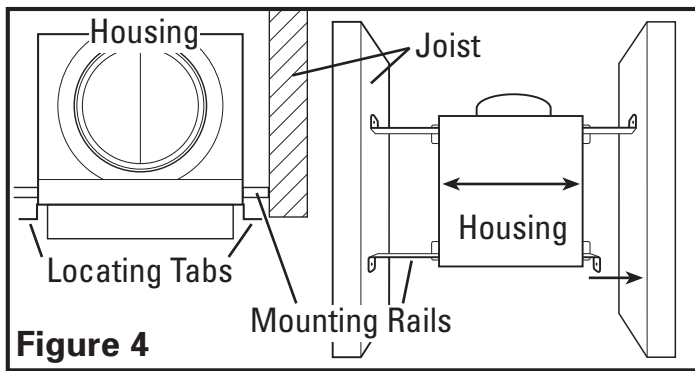
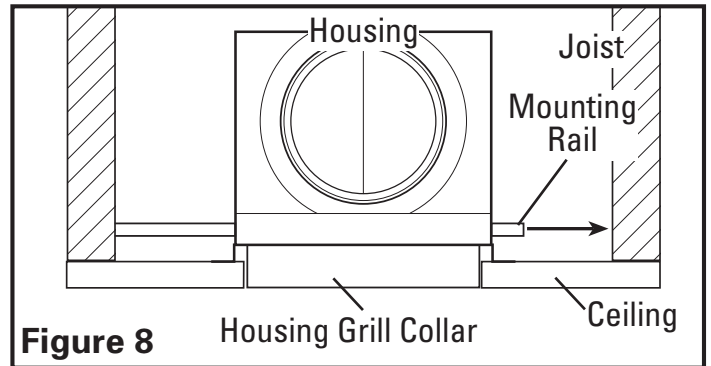

Figure 4
Figure 8
- Mounting Rail Installation:** Install the rails through the grill housing and position next to the joist. Using the locator tabs on the housing, line up tabs so that they are flush with the bottom of the joist. Secure the ends of the rails with the provided 1" screws to the joists and slide the housing into the final position (**Figure 4**).
Install the rails on the housing and position the housing grill collar in the previously cut hole so that it is flush with the finished ceiling (**Figure 8**). Secure the ends of the rails to the joists (**Figure 4**).